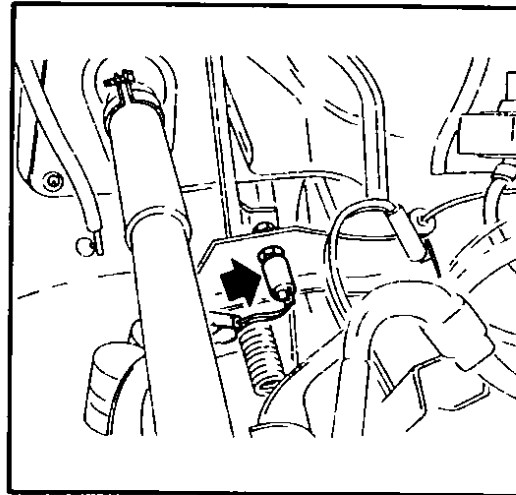

Fig 95 Stoplight switch
- 1 Disconnect the lead wires at connectors, Fig 95